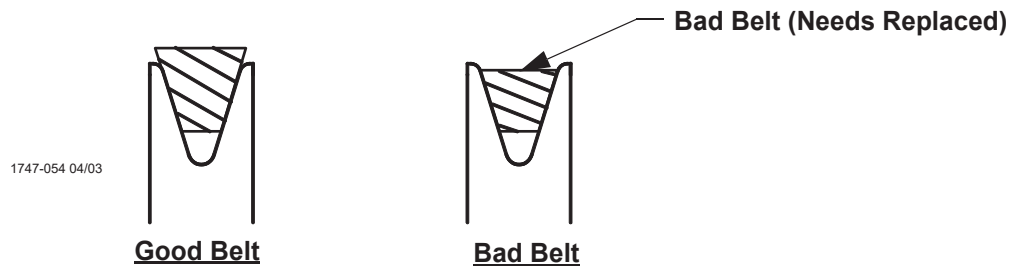

Figure 22. Belt Condition
- Periodically check the V-Belt and replace if necessary. A worn Belt will cause a substantial drop in Fan performance or it can break and cause Fan failure. If a Belt rides below the Sheave edge, replace the belt. (See Figure 22 below)